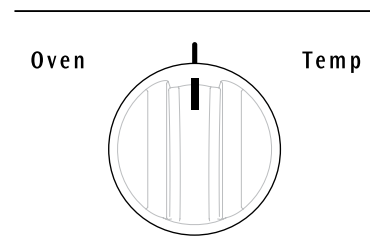

Fig. 1
2. Turn the oven control knob to **broil** (See Figs 1 & 2). Most foods can be broiled at the broil setting. Preheat the oven if desired.